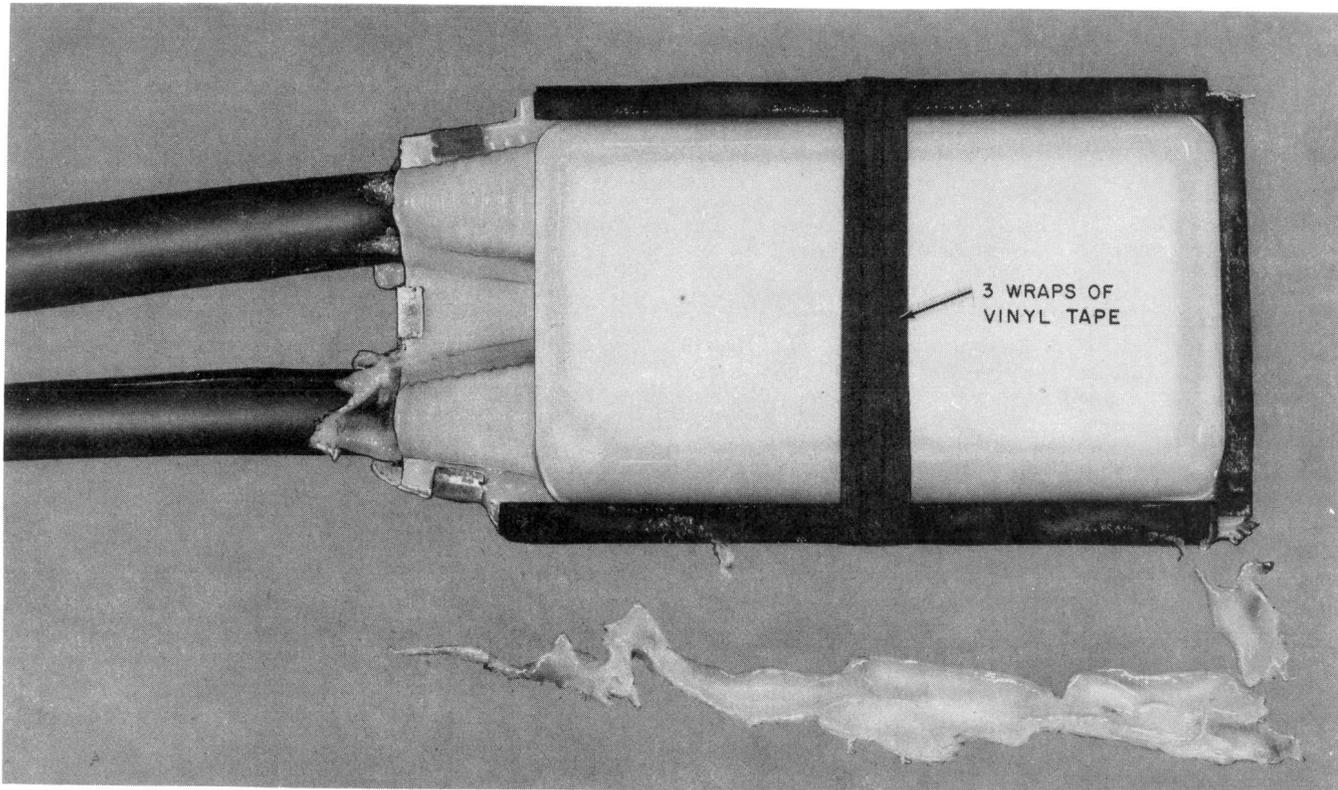

Fig. 29—Completed Installation
4.14 Place three wraps of vinyl tape or cable tie around the closure. A completed installation is shown in Fig. 29.